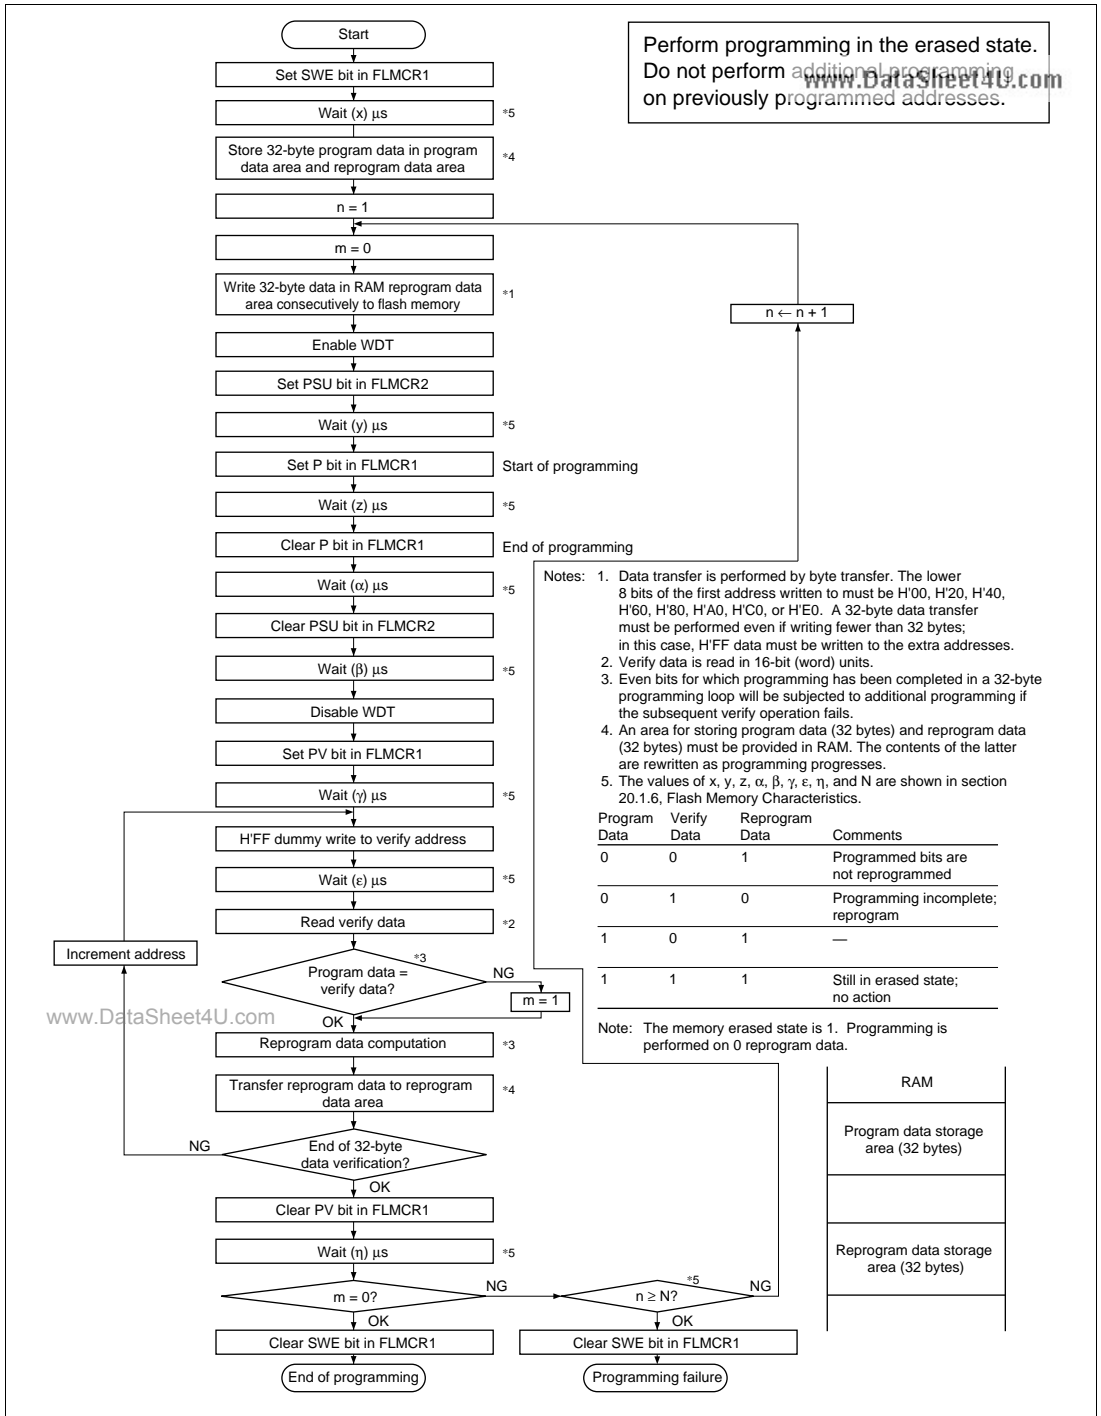

Figure 17.21 Program/Program-Verify Flowchart
Follow the procedure shown in the program/program-verify flowchart in figure 17.21 to write data or programs to flash memory. Performing program operations according to this flowchart will enable data or programs to be written to flash memory without subjecting the device to voltage stress or sacrificing program data reliability. Programming should be carried out 32 bytes at a time.
After the elapse of a given programming time, the programming mode is exited (the P bit in FLMCR1 is cleared to 0, then the PSU bit in FLMCR2 is cleared to 0 at least $(\alpha) \mu s$ later). Next, the watchdog timer is cleared after the elapse of $(y + z + \alpha + \beta) \mu s$ or more, and the operating mode is switched to program-verify mode by setting the PV bit in FLMCR1. Before reading in program-verify mode, a dummy write of H'FF data should be made to the addresses to be read. The dummy write should be executed after the elapse of $(\gamma) \mu s$ or more. When the flash memory is read in this state (verify data is read in 16-bit units), the data at the latched address is read. Wait at least $(\epsilon) \mu s$ after the dummy write before performing this read operation. Next, the originally written data is compared with the verify data, and reprogram data is computed (see figure 17.21) and transferred to the reprogram data area. After 32 bytes of data have been verified, exit program-verify mode, wait for at least $(\eta) \mu s$, then clear the SWE bit in FLMCR1 to 0. If reprogramming is necessary, set program mode again, and repeat the program/program-verify sequence as before. However, ensure that the program/program-verify sequence is not repeated more than (N) times on the same bits.